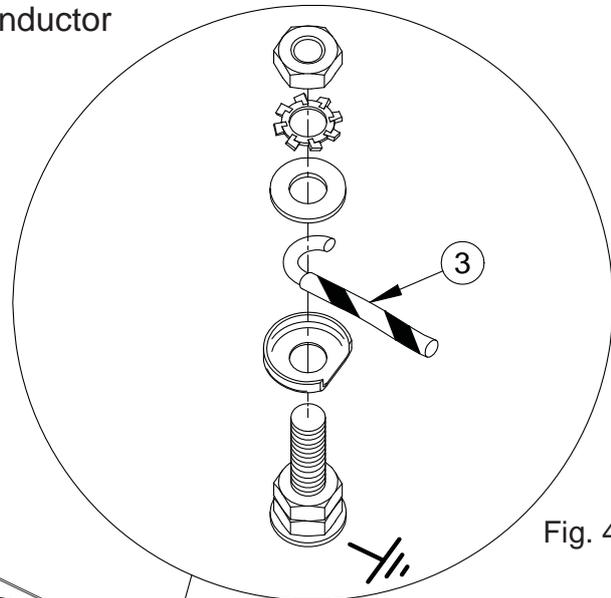

Fig. 4
4. Consolidate the stranded conductor ends by twisting and shape the earth conductor as shown in Fig. 4 (item 3).
5. Remove earth terminal post clamping components and assemble as shown in Fig. 4 ensuring shaped conductor is orientated as shown and all strands of the conductor are clamped between the washers.